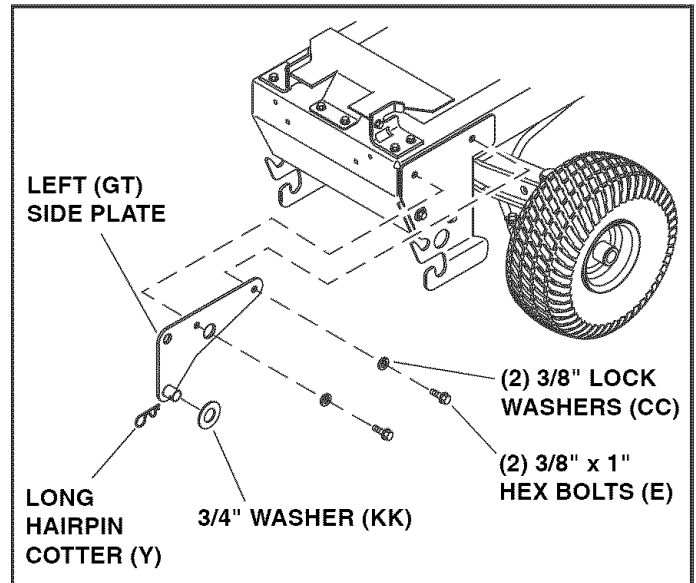

FIGURE 22
STEP 23: INSTALL SIDE PLATES (SEE FIGURE 22)
- Install the left (short) side plate with the pin to the outside using two 3/8" x 1" hex bolts (E) and 3/8" lock washers (CC). Tighten only until bolts are snug and lock washers are flattened. Repeat for the right side plate.
- Install a 3/4" washer (KK) and a long hairpin cotter (Y) to the pin in each side plate. Remove them while mounting the scoop.